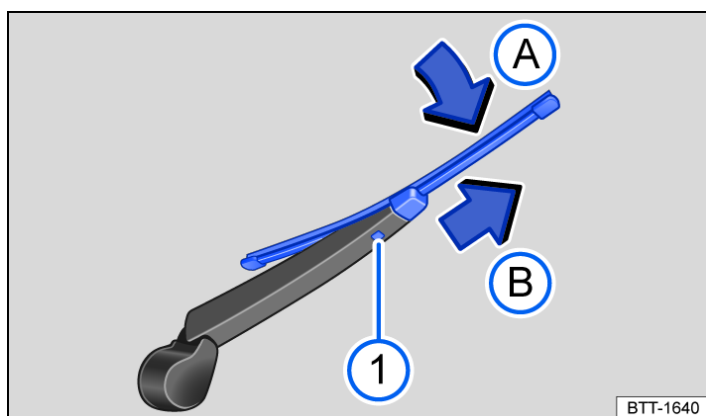

Fig. 2 Changing the wiper blade for the rear window.
- Press and hold the release button → Fig. 2 1.